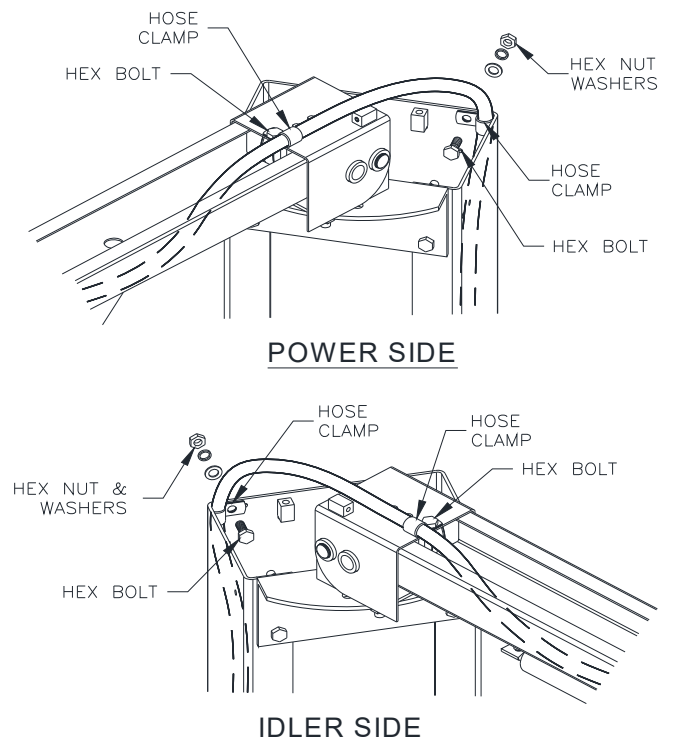

Fig 17 – Hydraulic Hose Routing
- 32) Clamp the Idler Hose to the Overhead and Column Extensions using a (1 set) hose clamp, M10 x 25 hex bolt, nut, flat washer, and lock washer as shown in **Fig 17** below. For both the Symmetric and Asymmetric configuration, the hose clamp in the Column Extension should be on the same side as the hose guides welded on the Columns. **IMPORTANT: ENSURE HOSE DOES NOT CONTACT CYLINDERS WHEN LIFT IS FULLY RAISED.**